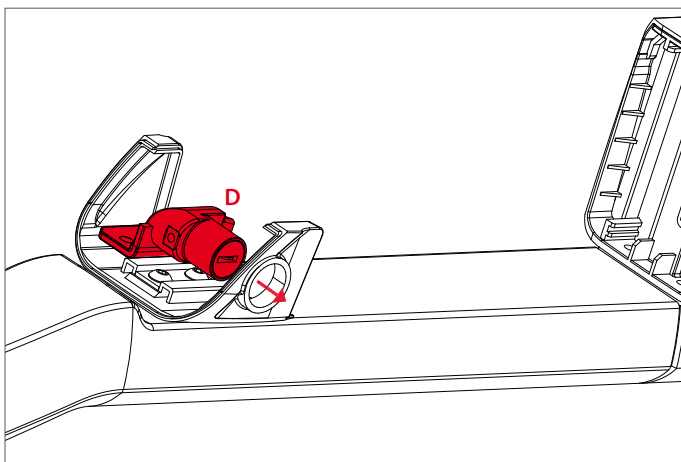

Figure 4.22 Inserting a lock
3. Insert the lock [D] into the correct position (Fig. 4.22).